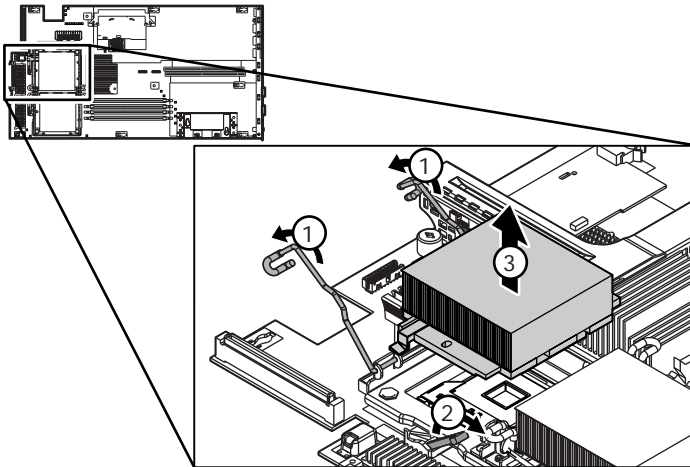

Figure 71 Release the processor retaining clips and lift locking lever
5. Release the processor retaining clips on either side of the processor assembly (1) (Figure 71).
6. Unlock the processor from the connector by lifting and swinging the locking lever over about 180 degrees (2).